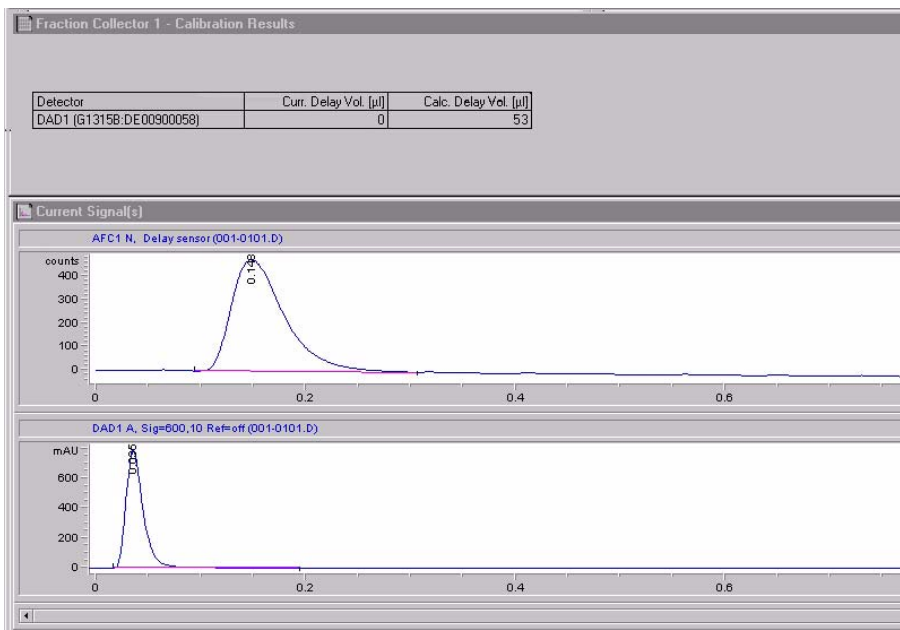

Figure 20 Delay Calibration Results Panel
- 10** When the calibration run has finished, click **OK**. The Calibration Results panel (see Figure 20) is displayed.